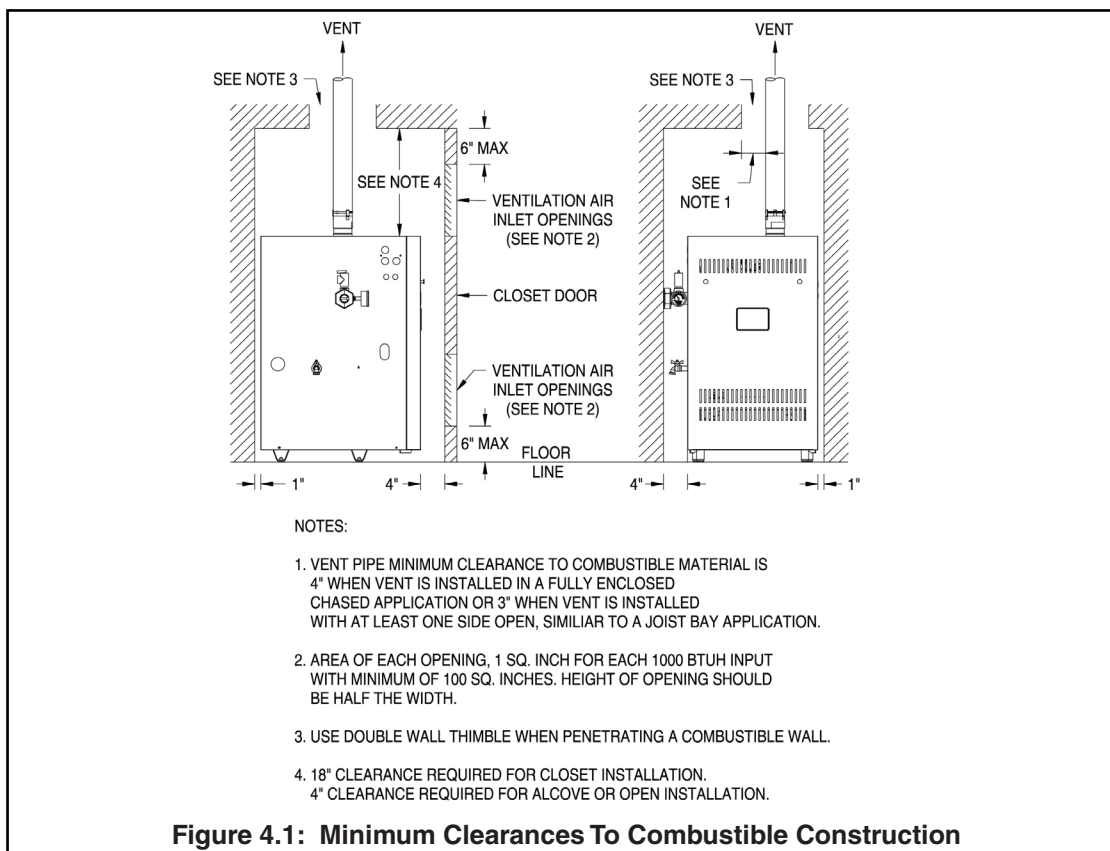

Figure 4.1: Minimum Clearances To Combustible Construction
- Provide clearance between boiler jacket and combustible material in accordance with local fire ordinances. Observe minimum clearances shown in Figure 4.1 to avoid potential fire hazard. Except as noted, these clearances apply to all combustible construction as well as noncombustible walls, ceilings and doors.
Note that if this option is exercised, the relief valve and gauge must still be installed in the location shown in Figure 4.1. The drain valve on the left side of the boiler must also remain accessible.
- Provide practical service clearances. A 24" service clearance from the jacket is recommended on the left, right, and front of the boiler. These clearances may be reduced to those shown in Figure 4.1, however servicing the boiler will become increasingly difficult as these service clearances are reduced.